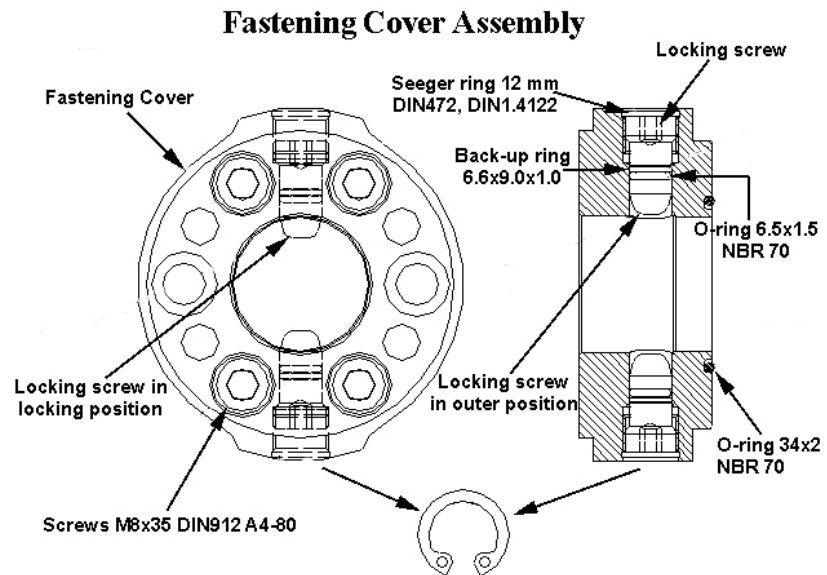

Figure 3 Fastening Cover Assembly Mounted
**NOTE: It is not necessary to remove the Fastening Cover to change the Transducer. If the Fastening Cover is left mounted, the Locking Screws (if any) must be put to their outer position before pulling the transducer out. See Figure 3 below.**
- A. If the Fastening Cover is removed or the Locking Screws are in outer position, see Figure 3, the Transducer can be removed. Enter the Transducer Removal Wrench (TRW) to the threads of the Transducer and turn clockwise two to three turns. Then pull the Transducer carefully straight out using the TRW.